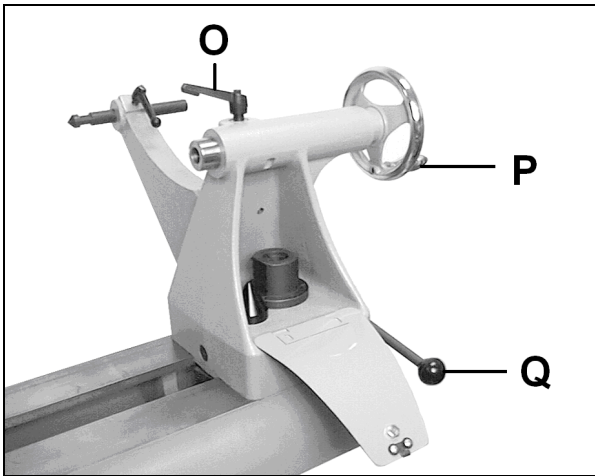

Fig 32
Turn the hand wheel (P, Fig 32) clockwise to move tailstock spindle forward. Lock tailstock spindle with the indexable knob (O).